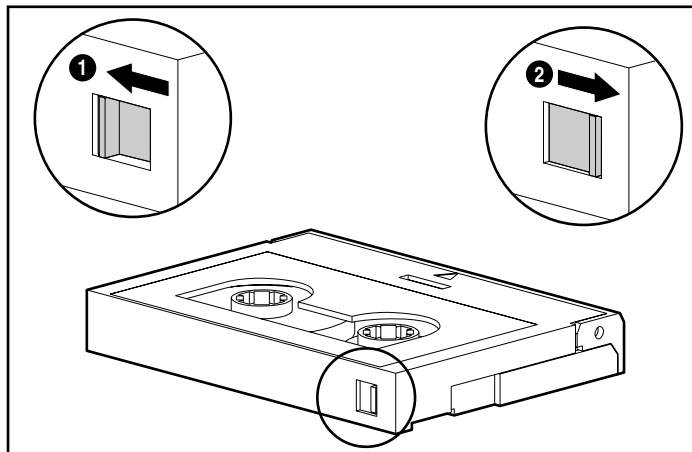

Figure 1-3. Write-protecting a cassette
Cassettes can be write-protected by ❶ sliding the tab on the rear of the cassette to the left so that the hole is open (See Figure 1-3). In this state, data can be read from the cassette but not written to it. To remove write-protection, ❷ slide the tab to the right so that the hole is closed.